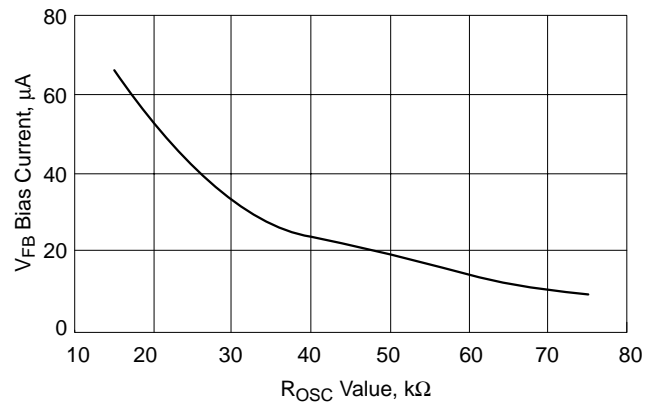

Figure 4. V_{FB} Bias Current vs. R_{OSC} Value
2. The V_{FB} Bias Current changes with the value of R_{OSC} per Figure 4.
To set the no-load positioning a resistor (R9) is placed between the output voltage and V_{FB} pin. The V_{FB} bias current will develop a voltage across the resistor to decrease the output voltage. The V_{FB} bias current is dependent on the value of R_{OSC} . See Figure 4 on the datasheet.